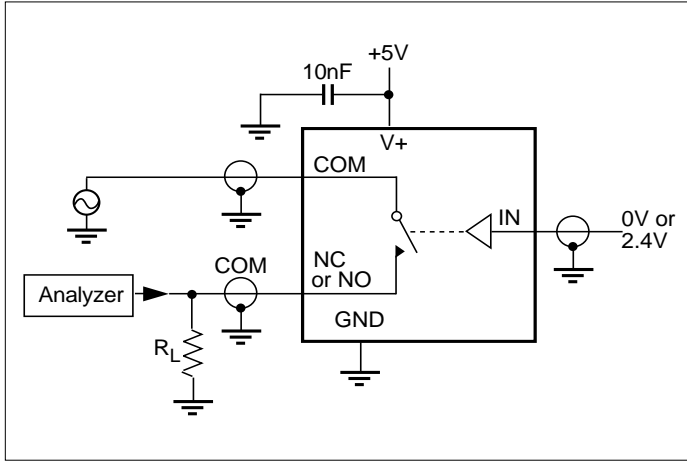

Figure 5. Off Isolation
7. Off Isolation = 20log₁₀ [V_{COM} / (V_{NC} OR V_{NO})]. See Figure 5.